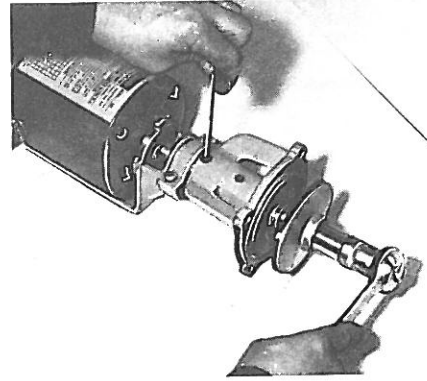

FIG. 9
11. Install the **Impeller Nut Assembly**, remembering that the assembly screws on the shaft counter clockwise since it is a left hand thread. (See Fig. 9)